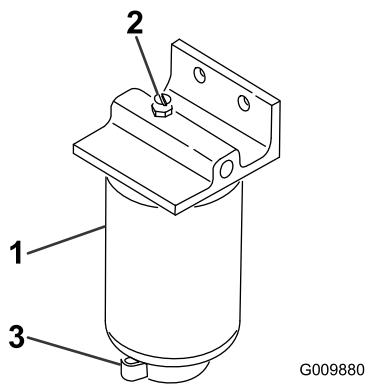

Figure 60
2. Loosen the drain valve on the bottom of the filter canister (Figure 60).
1. Clean the area where the filter canister mounts (Figure 60).